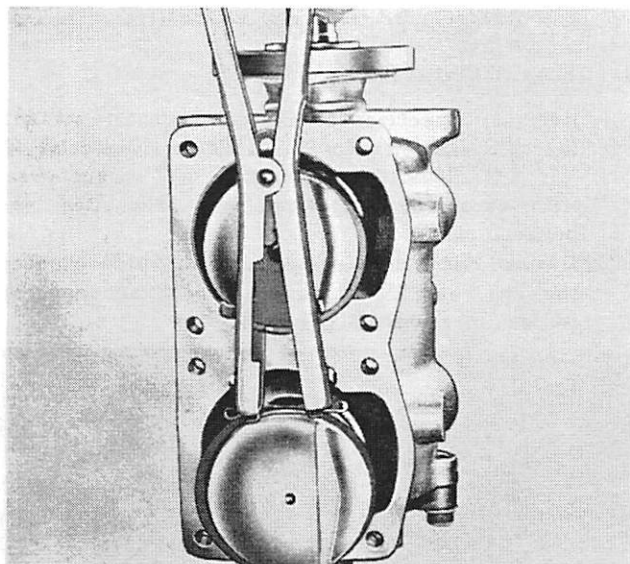

Figure 2. Removing Piston Rings
2. Remove piston rings with Piston Ring Expander (91-24697). (Figure 2)